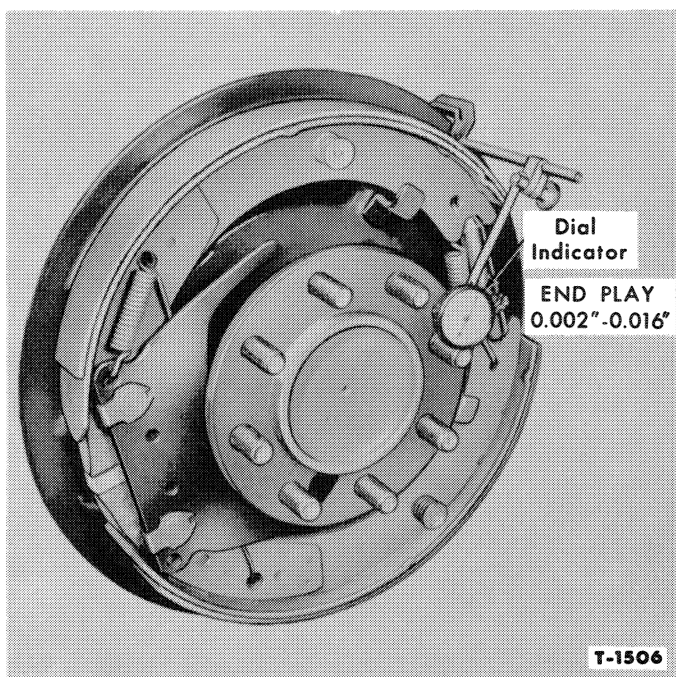

Figure 7—Checking Rear Axle Shaft End Play
3. Install a dial indicator as shown in Figure 7.